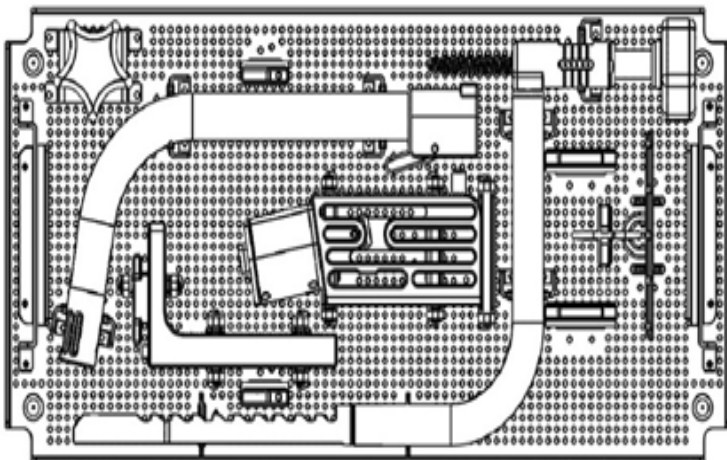

Figure 1 - Components in Tray without Base Plate
1. Load components inside tray according to Figure 1 and 2 below. Brackets secure components in place during transportation and sterilization.